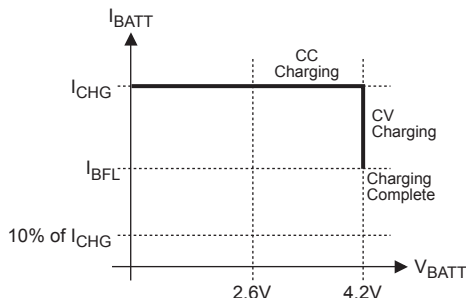
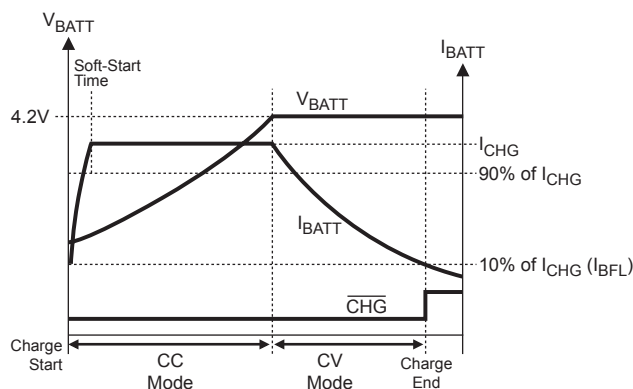

Figure 2—MP2606 Typical Charging Profile
Figure 3—MP2606 Typical Charging Procedure
Figure 2 below shows the typical charging profile for the MP2606. Figure 3 shows the typical charging procedure. For a depleted battery the MP2606 will start with the constant current of the programmed value (I_{CHG}). This is referred to as Constant Current (CC) mode. Once the battery voltage reaches 4.2V, the charger will operate in the constant voltage (CV) mode until the battery is fully charged. The charge current drops during CV mode, and the battery full indication is set when the charge current in the CV mode is reduced to the programmed full battery current (I_{BFL}). After battery full is asserted, the output current needs to reach I_{BFH} threshold to re-assert "In-charge" status.